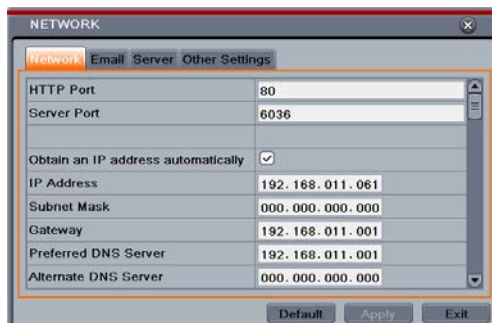

Fig 5-23 Network Configuration-Network
Step 1: Enter into Menu→Setup→Network→Network tab. Refer to Fig 5-23: